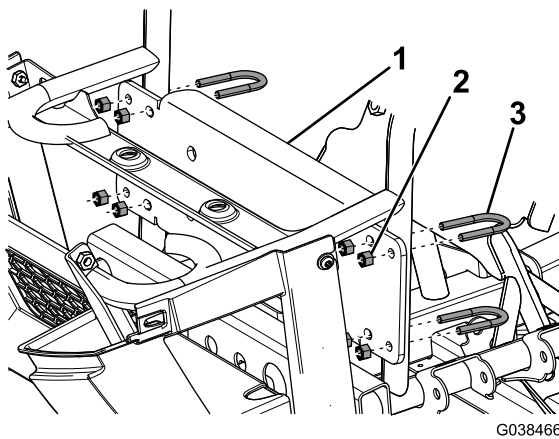

Figure 9
8. Loosely secure the upper bracket to the vehicle using 4 small U-bolts and 8 locknuts (5/16 inch) as shown in Figure 9.